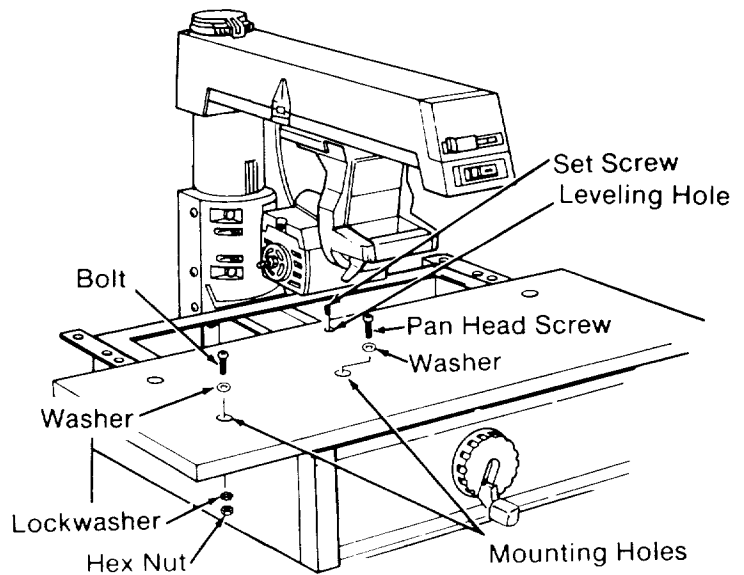

Fig. 46
4. Place the *front table* on the *saw* so that the *mounting holes* in the *table* line up with holes in the *table supports* and center channel of *saw*. (Figure 46)
5. Start the *cup point set screw* through the *leveling hole*. Do not tighten. (Figures 46 & 47)
6. Put a *washer* in each of the *mounting holes*. (Figures 46 & 47)
7. Start a *pan head machine screw* through the center *mounting hole*. Do not tighten. (Figures 46 & 49)
8. Install the *pan head bolts* through the other four *mounting holes*. Put a lockwasher and hex nut on each bolt and tighten using a Phillips screwdriver. (Figures 46 & 50)